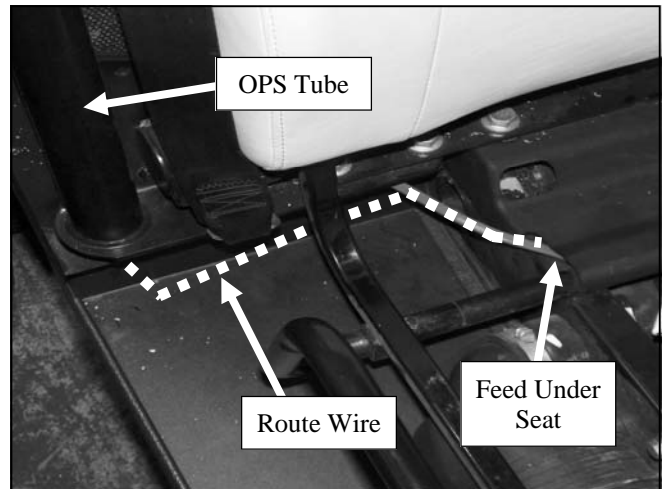

Figure 1.4 - Route Wire (Pass. Side Shown)
1.4 Route the wire under the front seat as shown in Figure 1.4.